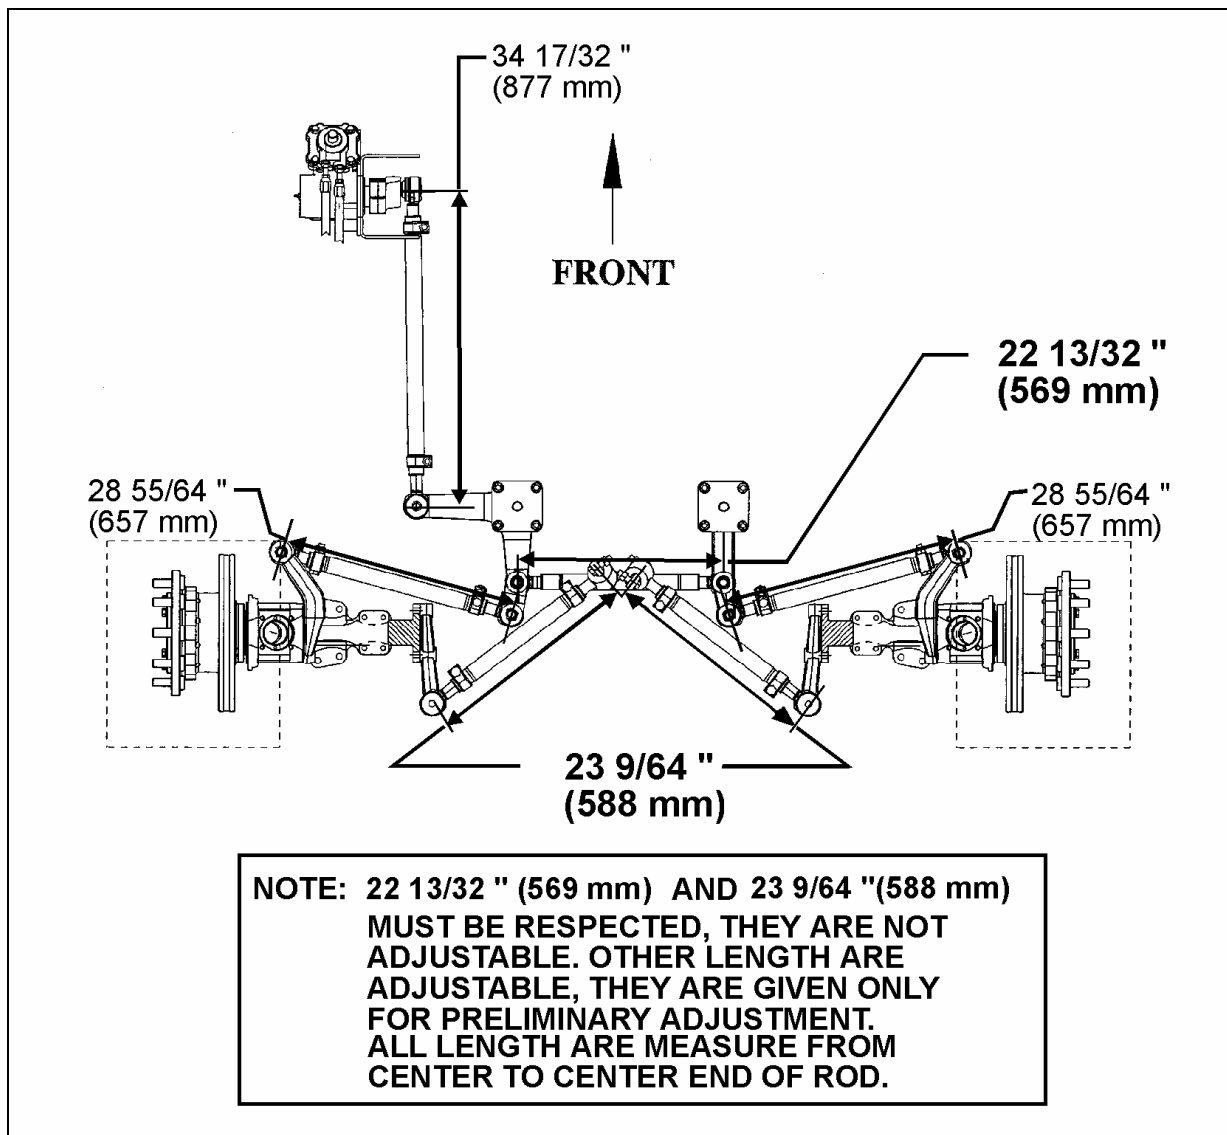

FIGURE 15: STEERING LINKAGE MEASURE
7. Check if the length of the torque rod is 23 9/64" (588 mm) (Fig. 15). Check if the length of the relay rod is 22 13/32" (569 mm)